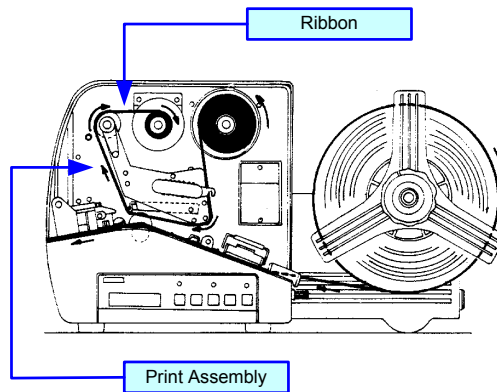

Figure 3-4d, Ribbon Loading
- 6 Route the free end of the ribbon around the print assembly (**Figure 3-4d**).